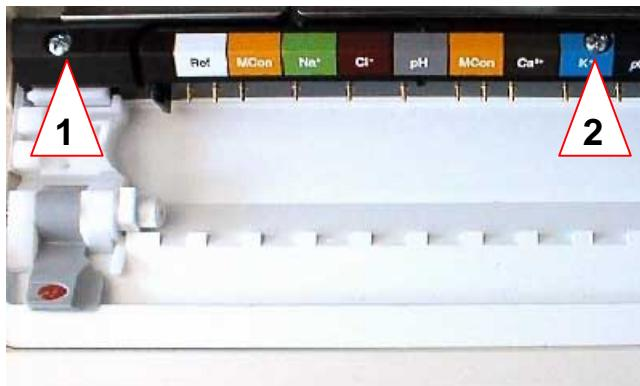

Fig. 3-14 Measuring chamber contact part
3. Open the screws at the measuring chamber contact part (see Fig. 3-14, 1 and 2).